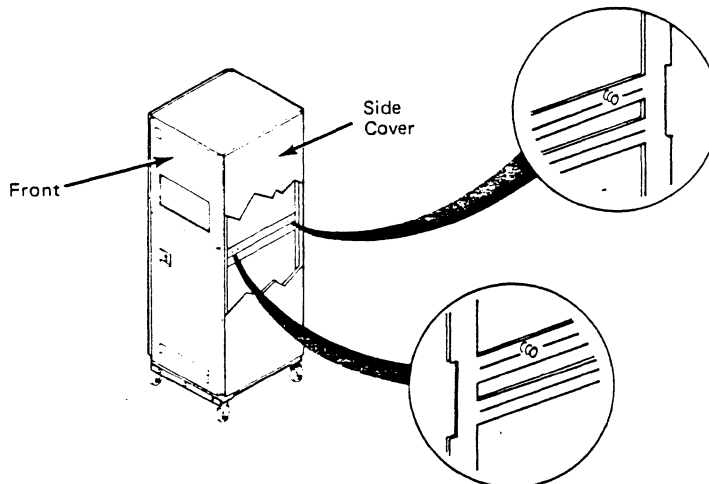

Figure 7-2. Location of Side Cover Securing Screws
2. Remove the side cover and inner ground shield from the left or right side of the base unit, depending on which side of the base unit the extension units are to be attached. (See Figures 7-2 and 7-3.)